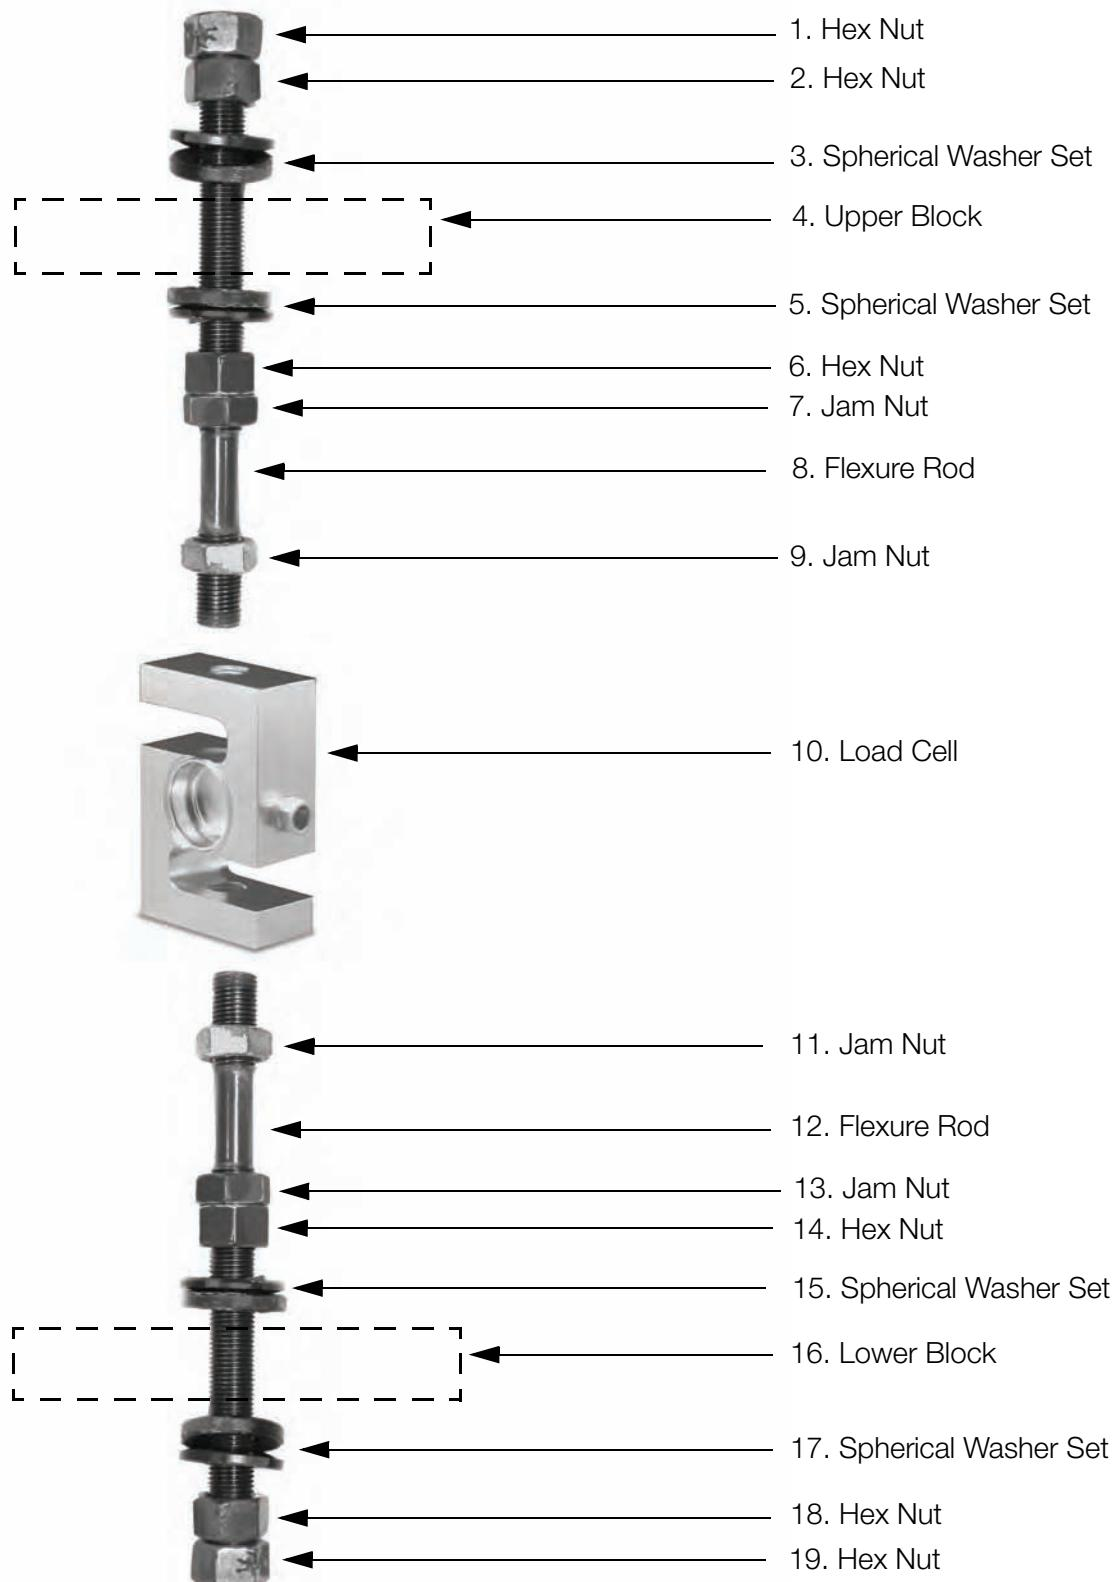

Figure 2-2. Pictorial CLS Series Parts Breakout
Figure 2-2 also illustrates the parts associated with load cell replacement and a replacement parts kit is available (PN 97883) which contains all of the component parts shown below, in Figure 2-2.
21. Insert the load cell and thread flexure rods into top and bottom of the load cell making sure the appropriate hex nuts, jam nuts, and spherical washers are in the correct order per Figure 2-2 on page 4.